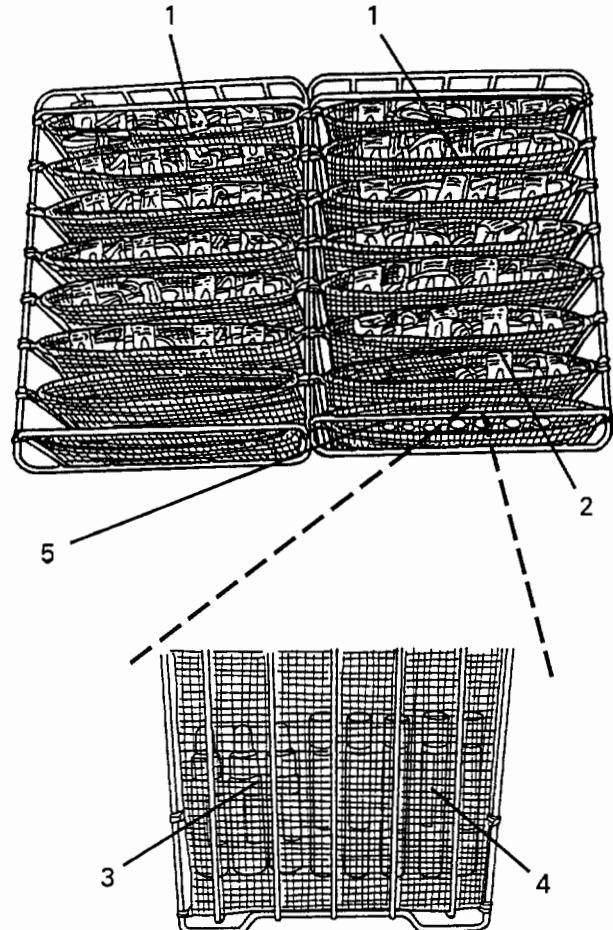

Figure 3-18 — Packing Sequence
330. **25 Units of Blood.** Pack each pocket with two units of blood (1), the one remaining unit of blood (2) should be packed singularly in the right hand pocket (Fig 3-18).
331. Pack the vials (3) and plasma bottles (4) in the end pockets (5) (Fig 3-18).